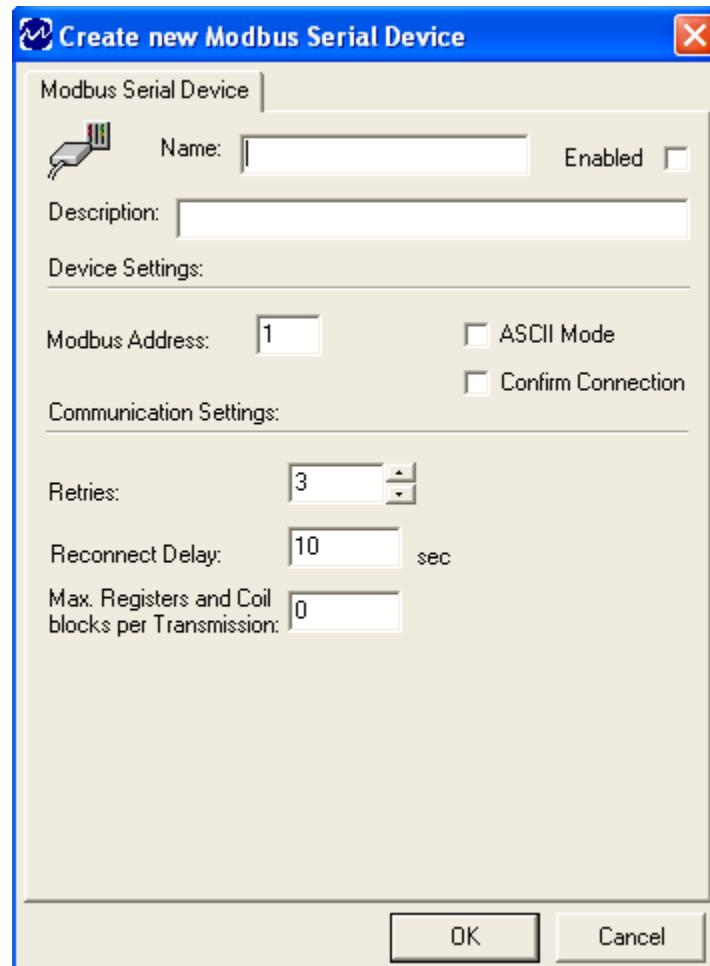

Figure 5 - Create New Modbus Serial Device Window
The **Create New** window (Figure 5) displays the settings available for a connection to a **Modbus Serial Device**.
5. The **Create New** window (Figure 5) appears.